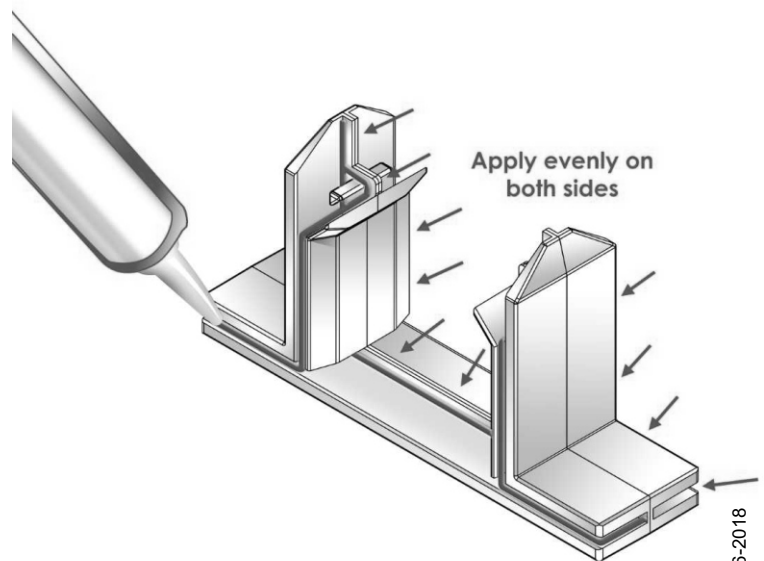

Fig. 2
2) Begin at an end or a corner and connect the next piece of base to the previous piece. If there is a drop out then it will need to be installed and glued into place. The base pieces on each side may need to be cut to fit the design measurements. Each drop out or corner will require two of the rubber joiners to hold it together and to allow for thermal expansion. Glue these into place and if necessary seal around joiner with a waterproof sealant. **Fig. 2**